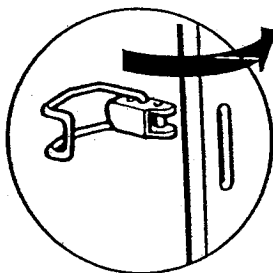
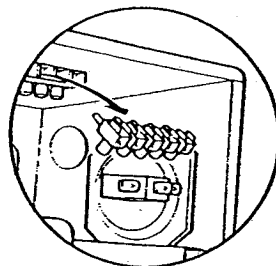
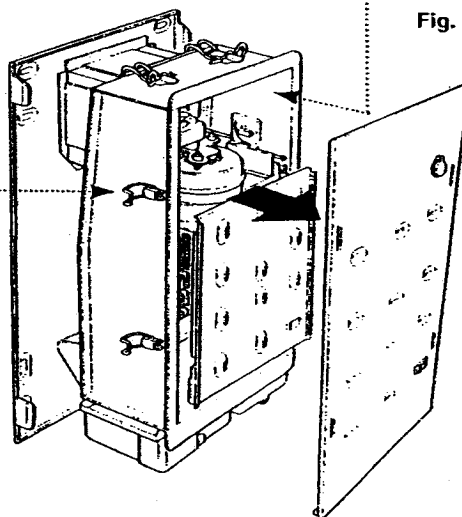

Fig. 91
Fig. 92
Fig. 93
6. Release the four latches holding the combustion box door (Fig. 91). Remove the combustion box door by pulling forward from the bottom and unhooking its top edge (Fig. 93).
7. Release the 5-pin electrical plug connecting the pressure switch and fan (Fig. 92). Withdraw the fan assembly by pulling forwards from the top edge (Fig. 93).